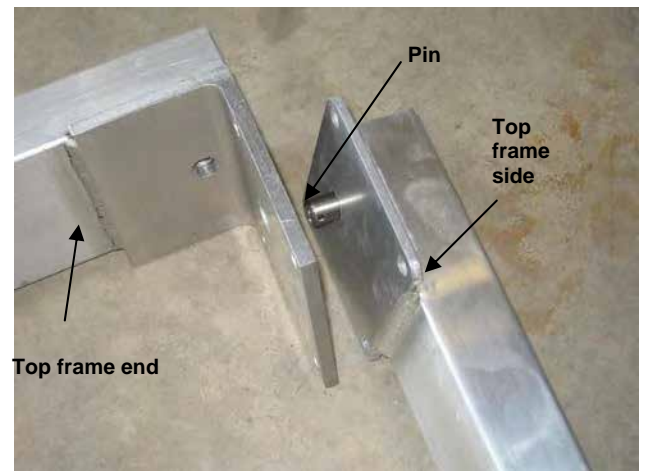

FIG. 9
5. Firmly bolt together shown in FIG. 9 and 11. Use the 4 ea. 3/8" x 1" long bolts and